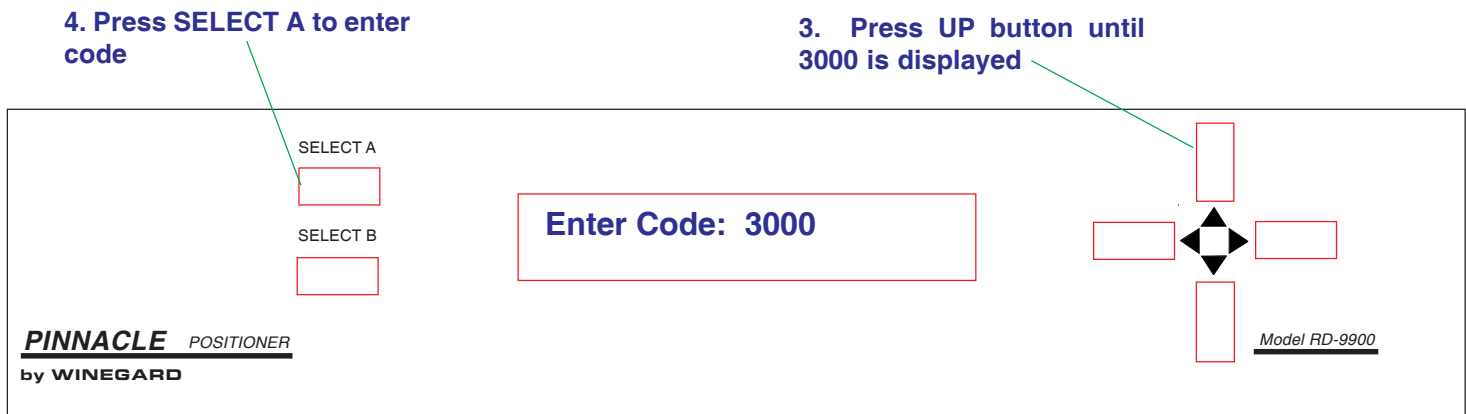

Figure 30
3. Press [UP] arrow button until positioner display shows **3000**. See Figure 30.
4. Press [SELECT A] **Enter Code: 3000** to access Edit Menu. See Figure 30